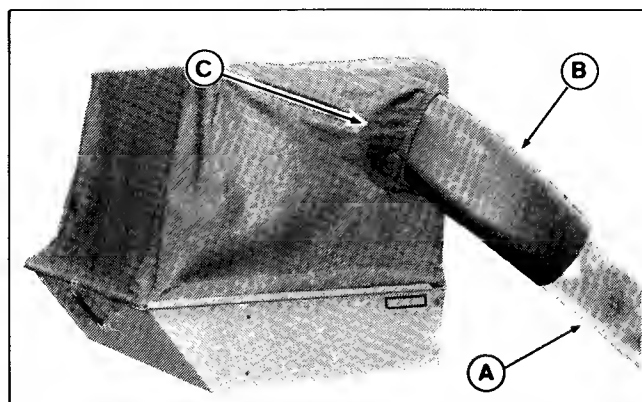

Figure 19.
9. Install the tube (A, figure 19) to the cart cover elbow (B). Make sure the cover's collar (C) is pulled down over the elbow as far as possible.